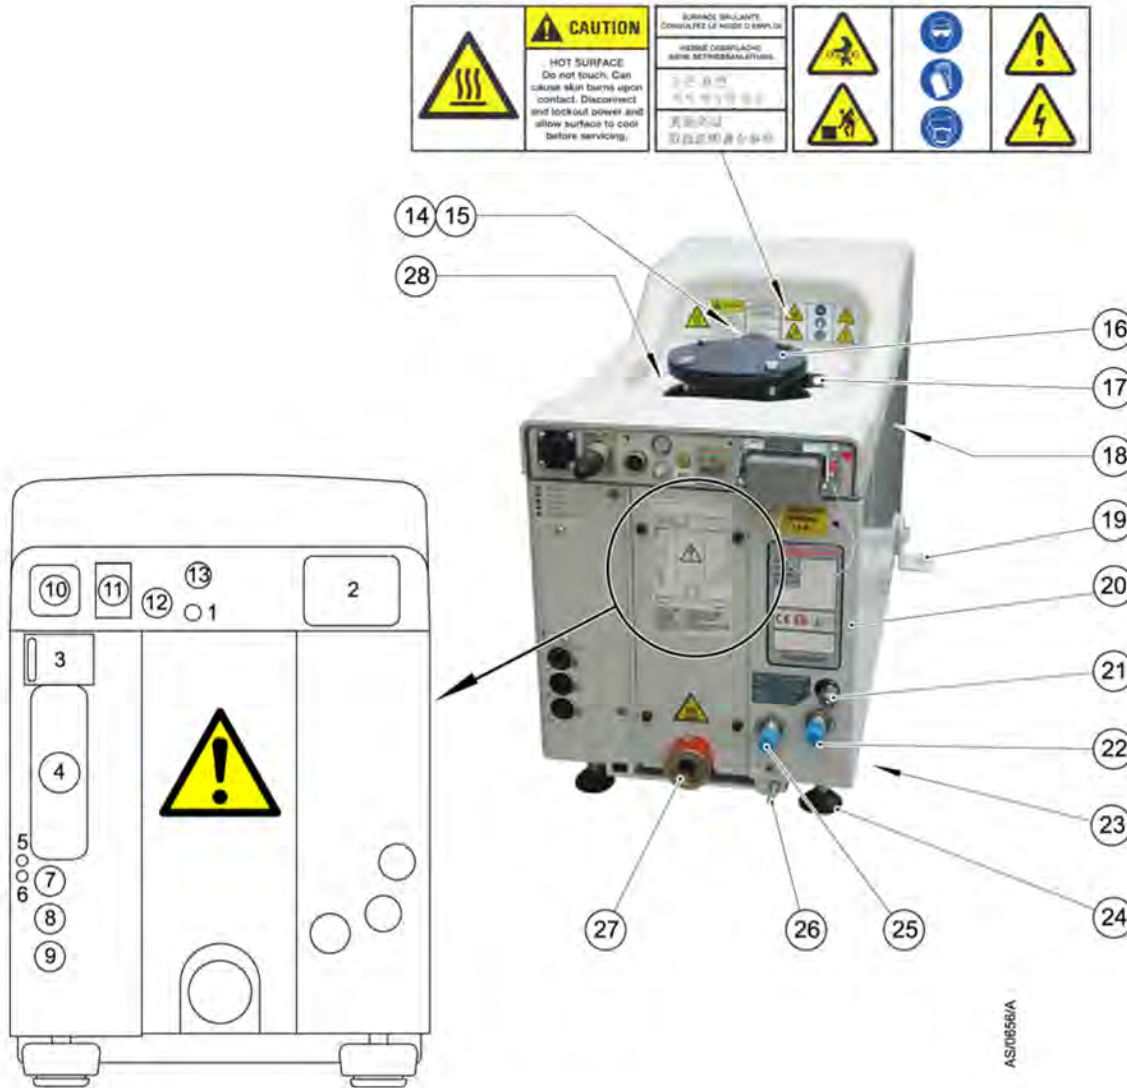

Figure 2 - The controls/connectors
1. Use suitable lifting equipment (refer to Figure 2) attached to the lifting eyebolt (15) to move the iGX system close to its final operating position.
2. Adjust the levelling feet (24) to make sure that the iGX system is level and is not supported by the castors. The lifting eyebolt must be retained for future use with this system.
- The iGX system seismic brackets (Figure 2, item 19) are designed to withstand a level 4 earthquake in a ground floor installation.
Refer to Figure 2, items 16, 18 and 27. Use the following procedure to connect the inlet and exhaust of the iGX system to your vacuum inlet and exhaust pipeline:
2. Use the O-ring supplied and suitable nuts, bolts and washers (not supplied) to connect the inlet-flange (Figure 2, item 16) of the iGX system to your vacuum system.
3. Use the NW25 trapped O-ring and clamp supplied to connect the exhaust outlet (Figure 2, item 27) on the exhaust pipe, to your exhaust extraction system.
4. Use the NW16 trapped O-ring and clamp supplied to connect the interstage connection (Figure 2, item 18) if fitted.